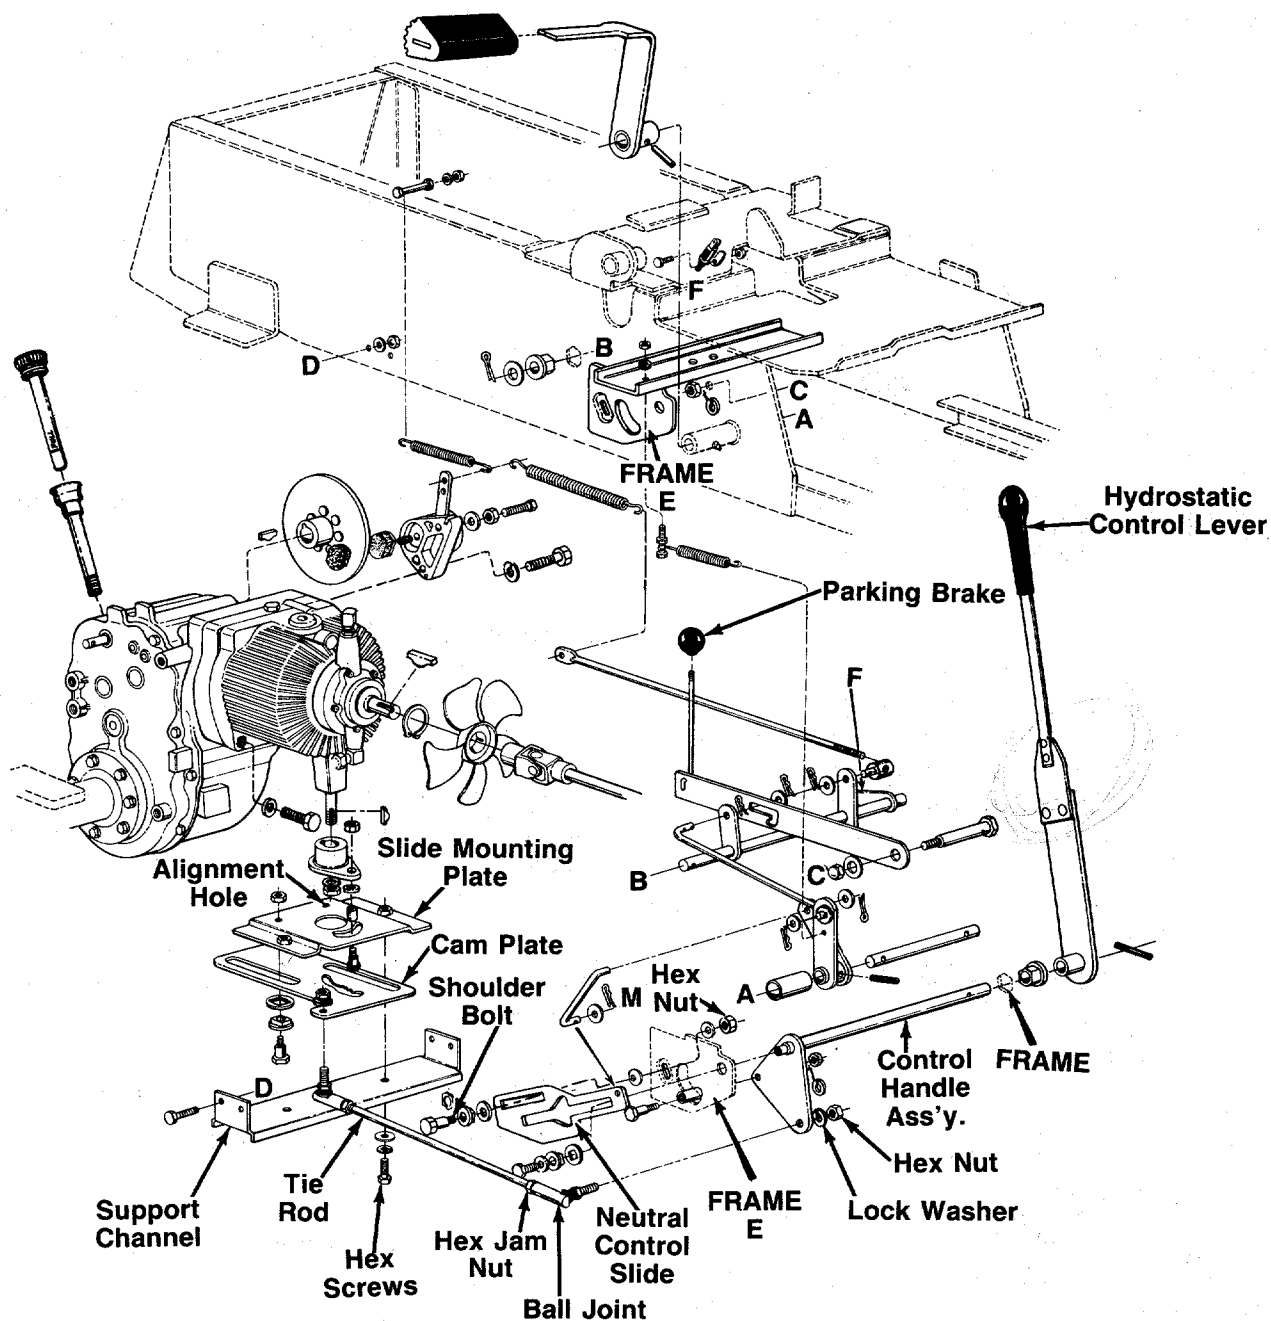

FIGURE 15.
NEUTRAL ADJUSTMENT FOR THE HYDROSTATIC CONTROL LEVER (See Figure 15)
2. Remove the ball joint hex nut and lock washer from the control handle assembly. See figure 15.